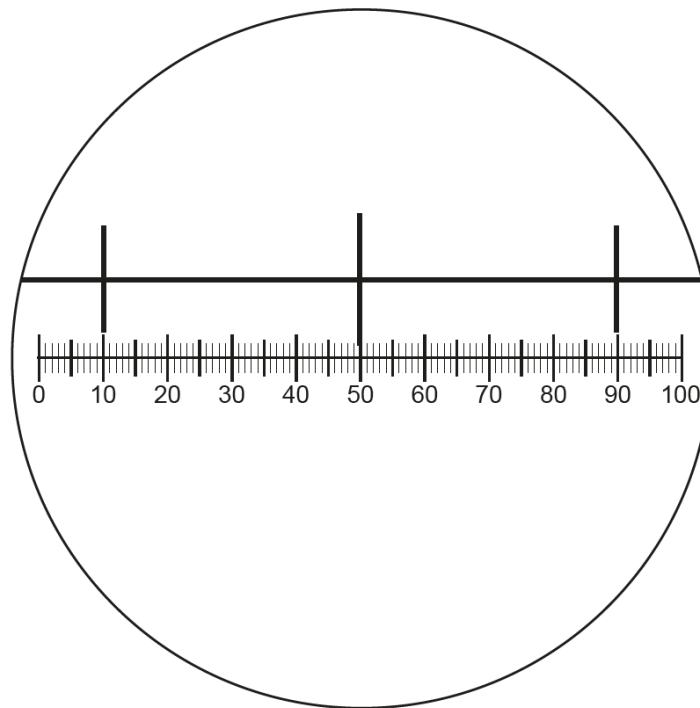
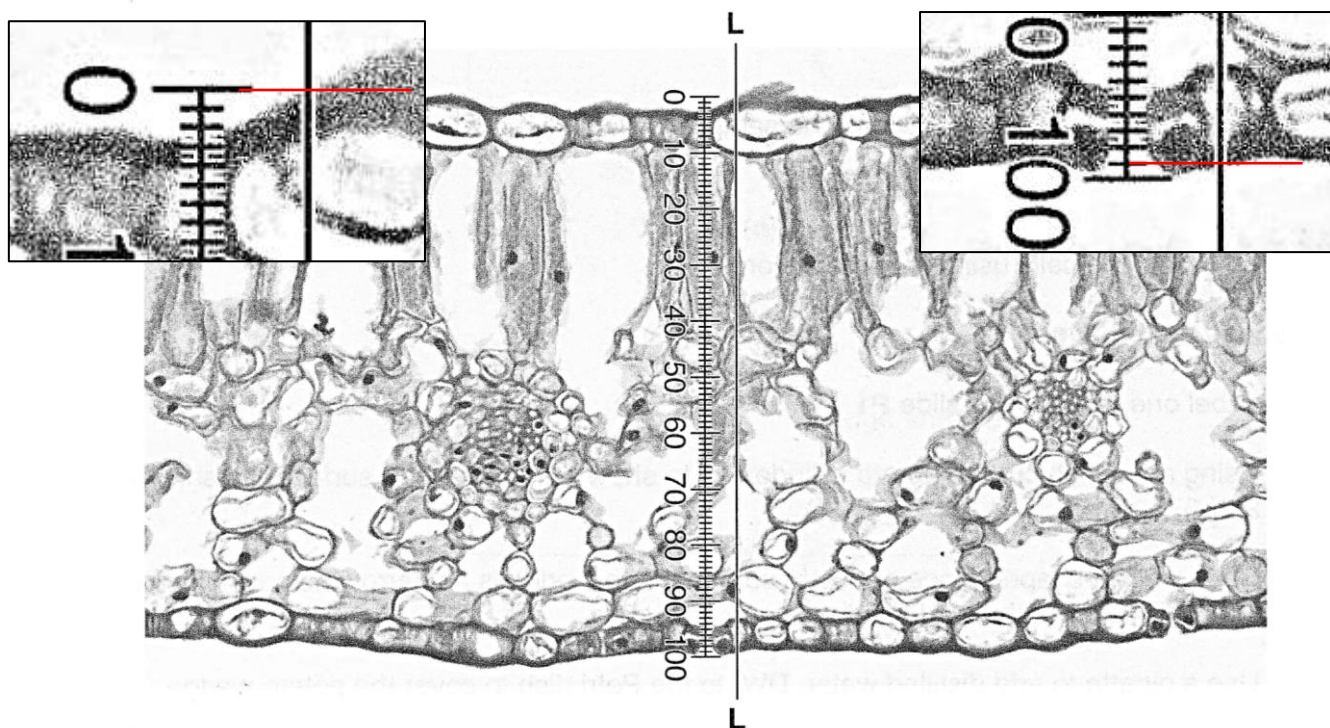

Fig. 3.3
Fig. 3.4
- (ii) Fig. 3.3 shows a diagram of a stage micrometer scale that is being used to calibrate an eyepiece graticule.
Use Fig. 3.3 to calculate the actual length of one eyepiece graticule unit.
Fig. 3.4 shows the same specimen as Fig. 3.2 viewed through a microscope fitted with the eyepiece graticule shown in Fig. 3.3.
- (iii) Use your answer to (b)(ii) to find the actual thickness of the leaf at the position shown by the line L-L in Fig. 3.4.